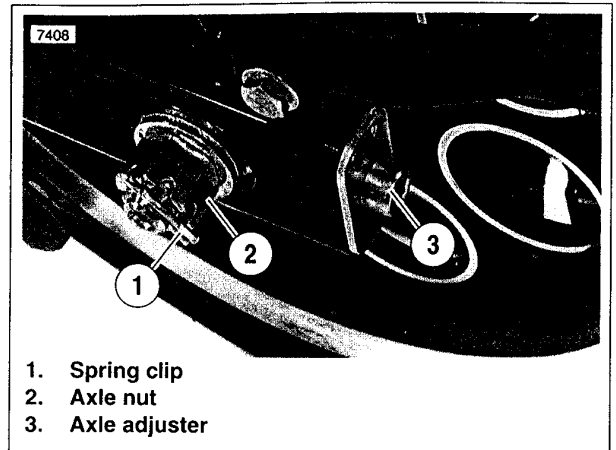

Figure 1-38. Axle Adjusters
1. See Figure 1-38. Remove spring clip (1) and loosen axle nut (2).
2. Adjust belt tension by turning the axle adjusters (3) an equal number of turns to keep the wheel aligned until the specification in step 3 under ADJUSTMENT above is achieved.